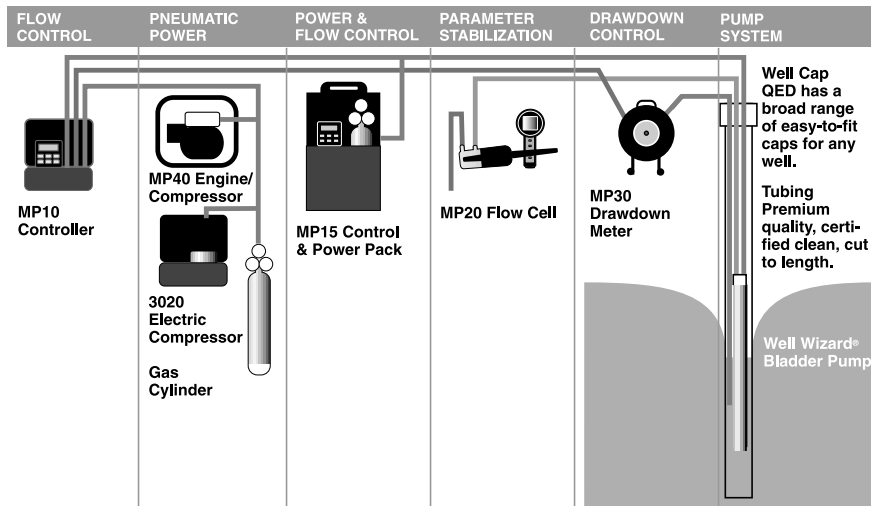

Figure 1 MicroPurge Basics System
3. Connect the MP30 to the MicroPurge basics controller with the cable provided (See Figure 1 at left).
4. Connect MicroPurge basics controller (MP10 or MP15) to pump air supply fitting on the well cap (See Figure 1 at left)
5. Connect the pump discharge tube to the MP20 Flow Cell inlet tube (See Figure 1 at left) and press the MP20 Power "ON" key.